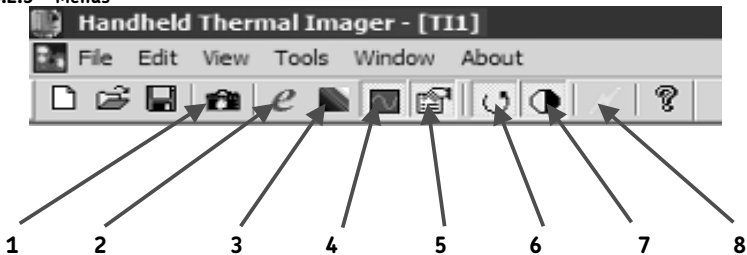

Figure 9: Thermal Imager Tool Bar
- The sensitivity and range can be automatically adjusted for a single image by clicking on the 'Single Auto Gain' button. For continuous automatic adjustment the 'Continuous Auto Gain' button should be selected, this button is on the tool bar, see **Figure 9**.
- Use the 'temperature graph toggle' on the Tool Bar, or select Temperature Graph from the **View** menu. See **Figure 9** for more information on the Tool Bar.